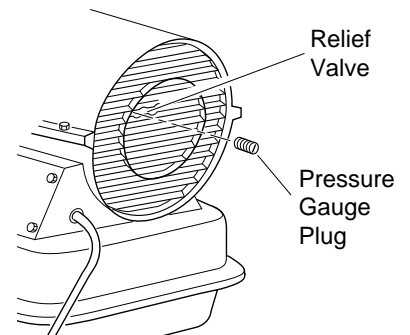
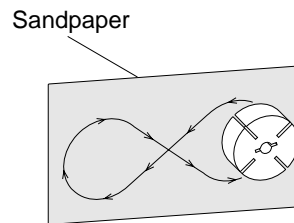

Figure 8 - Pressure Gauge Plug Removal
Figure 20 - Sanding Rotor
14. Place fine grade sandpaper (600 grit) on flat surface. Sand rotor lightly in "figure 8" motion four times (see Figure 20).